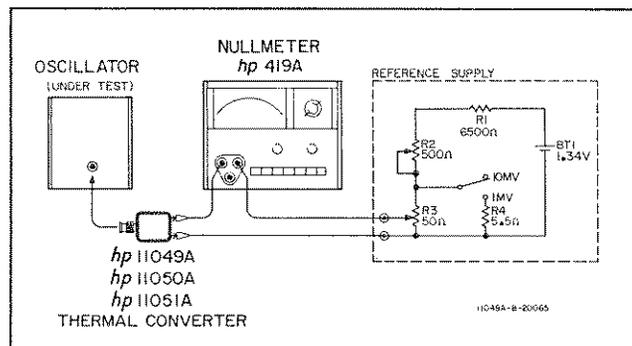

Figure 4. Frequency Response Measurements
11. The accuracy and sensitivity of thermal converter measurements are dependent on the accuracy and resolution of the output measuring circuit. Figure 4 shows a very stable and sensitive output monitor circuit. With this circuit, an output change of $1.5 \mu\text{V}$, or 0.01% of full scale, can easily be resolved. The
12. To build the reference supply shown in Figure 4 on the next page, use a mercury battery and wirewound resistor. The potentiometers should be 10 turn or 20 turn, and the switch should have low thermal contacts. After constructing the reference supply, place it in a shielded container and allow the mercury battery to age in the circuit for about a week. The longer the battery is allowed to age, the better its short term stability will be.
15. Figure 4 on the next page shows a test setup for making simple but accurate frequency response measurements. The following steps describe the measurement.
- Connect null meter, reference supply, and thermal converter as shown in Figure 4. Keep cables connecting oscillator and thermal converter as short as possible.